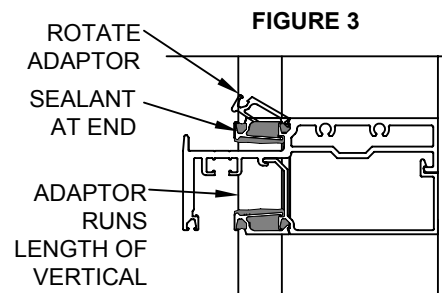

FIGURE 3
- STEP D:** Snap vertical adaptors into glazing reglets of frame. Adaptor should be positioned to allow sealing of horizontal adaptor to the vertical adaptor. (approximately 1/4" projection into horizontal pocket) (Figure 3)